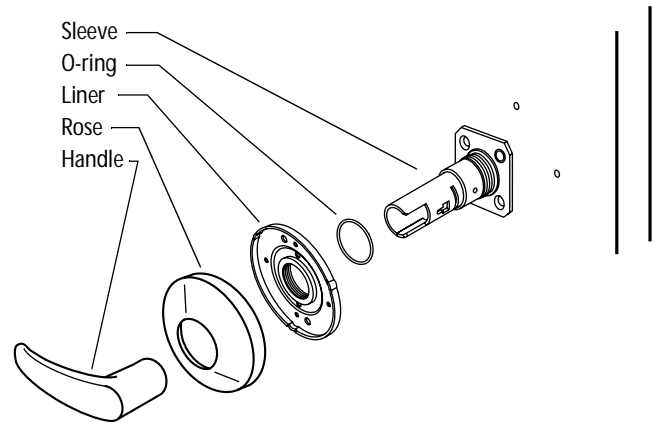

Figure 9 — Single dummy trim installation
- 5 Press on the roses over the liner assemblies. See Figure 9.